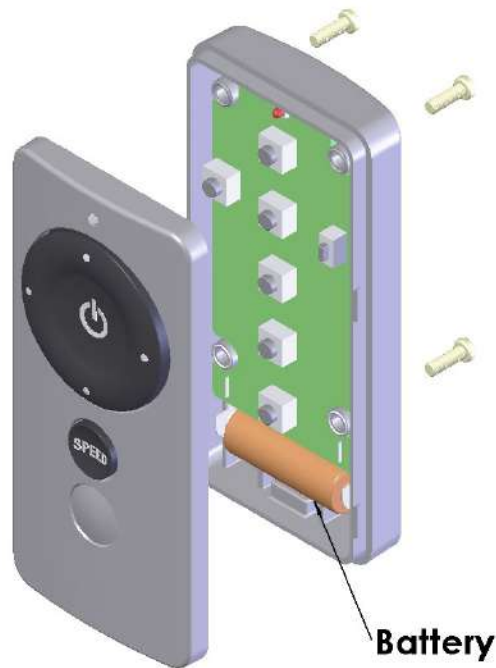

Fig. 11 Battery Location in Remote Controller
2. Loosen the four (4) screws from back cover of Remote Controller.
3. Carefully disassemble Remote Controller, see details in Fig.11.
- ➡ Check if the wireless remote's battery is in good condition, see Fig.11.
- ➡ Replace battery for Remote Controller. (See Fig. 11)